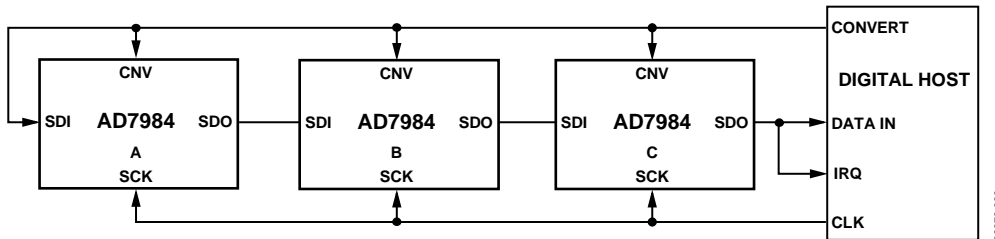
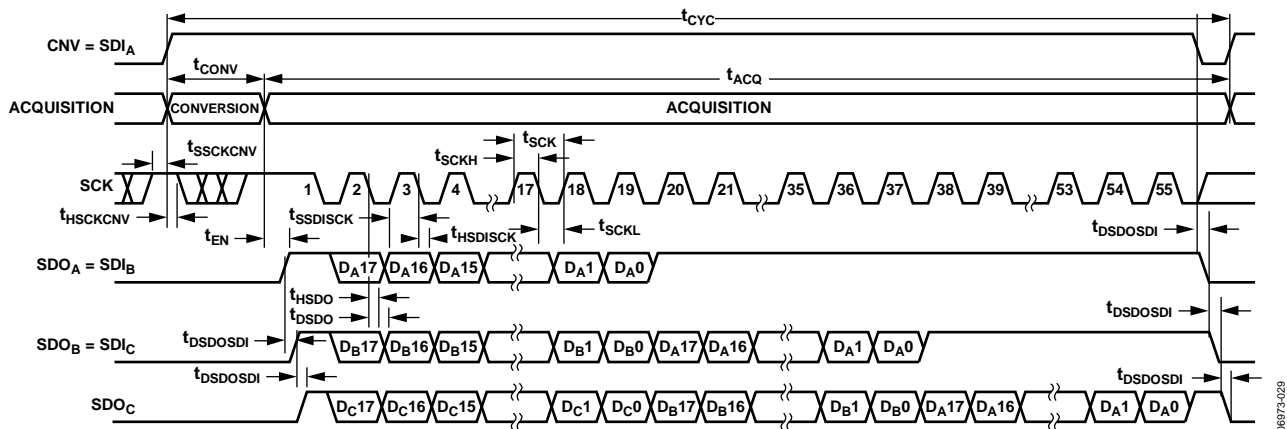

Figure 38. Chain Mode with Busy Indicator Connection Diagram
Figure 39. Chain Mode with Busy Indicator Serial Interface Timing
- In chain mode if SCK is high during the CNV rising edge (see Figure 39).
A connection diagram example using three AD7984s is shown in Figure 38, and the corresponding timing is given in Figure 39.
completed their conversions, the SDO pin of the ADC closest to the digital host (see the AD7984 ADC labeled C in Figure 38) is driven high. This transition on SDO can be used as a busy indicator to trigger the data readback controlled by the digital host. The AD7984 then enters the acquisition phase and goes into standby mode. The data bits stored in the internal shift register are clocked out, MSB first, by subsequent SCK falling edges. For each ADC, SDI feeds the input of the internal shift register and is clocked by the SCK falling edge. Each ADC in the chain outputs its data MSB first, and $18 \times N + 1$ clocks are required to read back the N ADCs. Although the rising edge can be used to capture the data, a digital host using the SCK falling edge allows a faster reading rate and, consequently, more AD7984s in the chain, provided the digital host has an acceptable hold time.